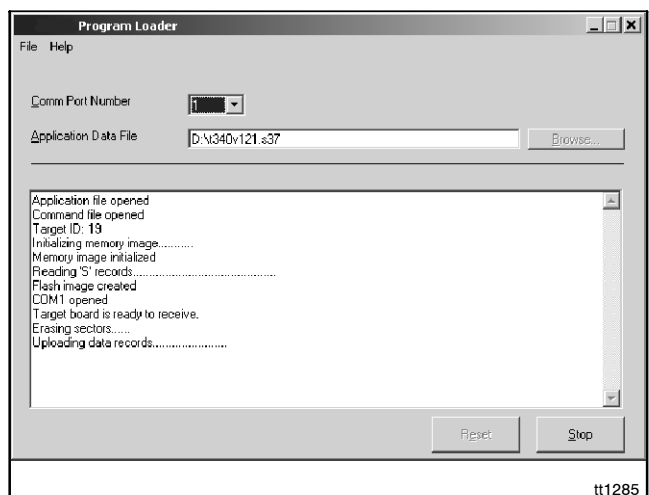

Figure 4 Program Loader Screen
10. Enter the number of the computer's COM port (number 1 through 16) that is connected to the controller through the communication cable. See Figure 4.